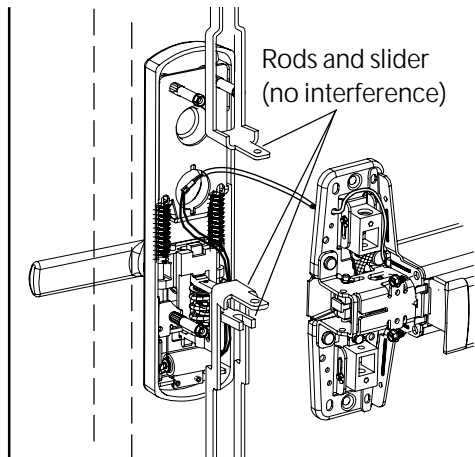

Figure 12-2
- Note:** For 98/9947 device, hold trim in door and lift center case away from the door surface while rods and trim remain in place. Route wiring as shown in Figure 12-2. Verify that the wires do not get wrapped around or pinched in rods or slider, then align center case and attach rods.